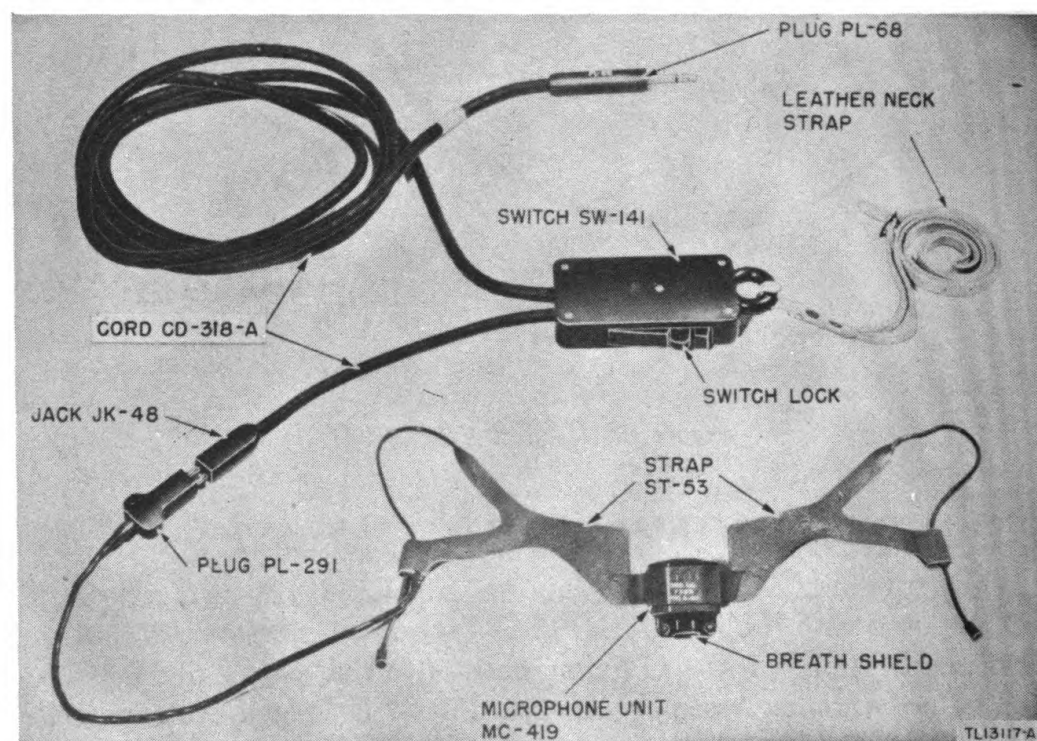

Figure 14. Microphone T-45 and Cord CD-318-A.
12. MICROPHONE T-45 (fig. 14).
design of the microphone reduces background noise and allows speech to be reproduced clearly under all conditions. This microphone is used with Radio Set AN/TRC-7 in conjunction with Cord CD-318-A, which contains Switch SW-141, the receive-transmit switch (fig. 14). Switch SW-141 is used in a manner similar to the button on the handle of Microphone T-17 and the switch on the handle of Handset H-23()/U.